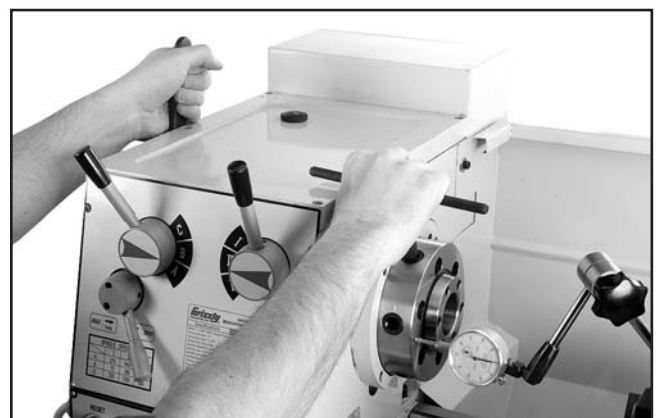

Figure 93. Adjusting spindle bearings.
- Insert the cam key into a cam socket to prevent the spindle from turning, then tighten the inner spanner nut until the dial indicator needle just stops moving (**Figure 93**).